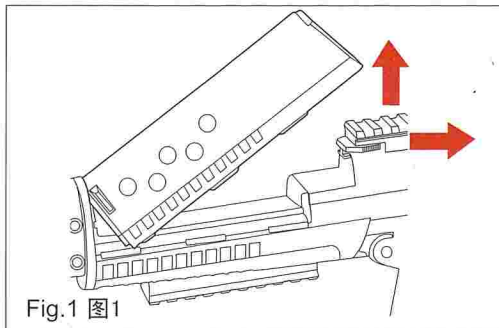

Fig.1 图1
- Pull the Hand guard Lock backward Lift and open the Hang guard.(Fig.1)
往后拉开护板锁杆,移去护板。(图1)